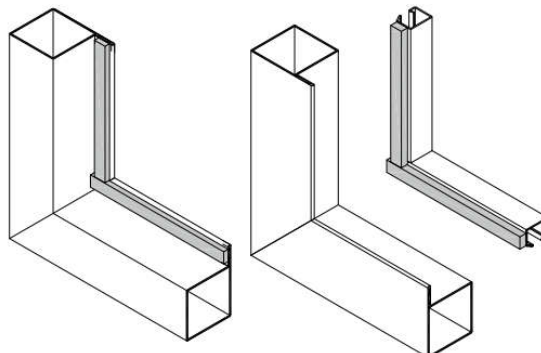

Figure 11 Keraband seal installation
- 4.1. Glue the outer seal onto the frame and inner seal onto the glazing bead (if the seals have different thicknesses, then the thinner one must be placed on to the frame) (Figure 11).